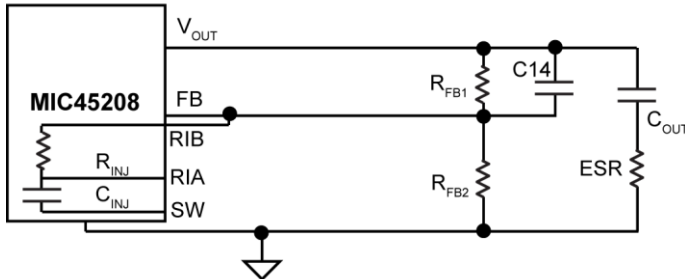

Figure 10. Internal Ripple Injection at FB via RIB Pin
- There is virtually no or inadequate ripple at the FB pin voltage due to the very-low ESR of the output capacitors; such is the case with ceramic output capacitor. In this case, the V_{FB} ripple waveform needs to be generated by injecting suitable signal. MIC45208 has provisions to enable an internal series RC injection network, R_{INJ} and C_{INJ} as shown in Figure 10 by connecting RIB to FB pin. This network injects a square-wave current waveform into FB pin, which by means of integration across the capacitor (C_{14}) generates an appropriate sawtooth FB ripple waveform.